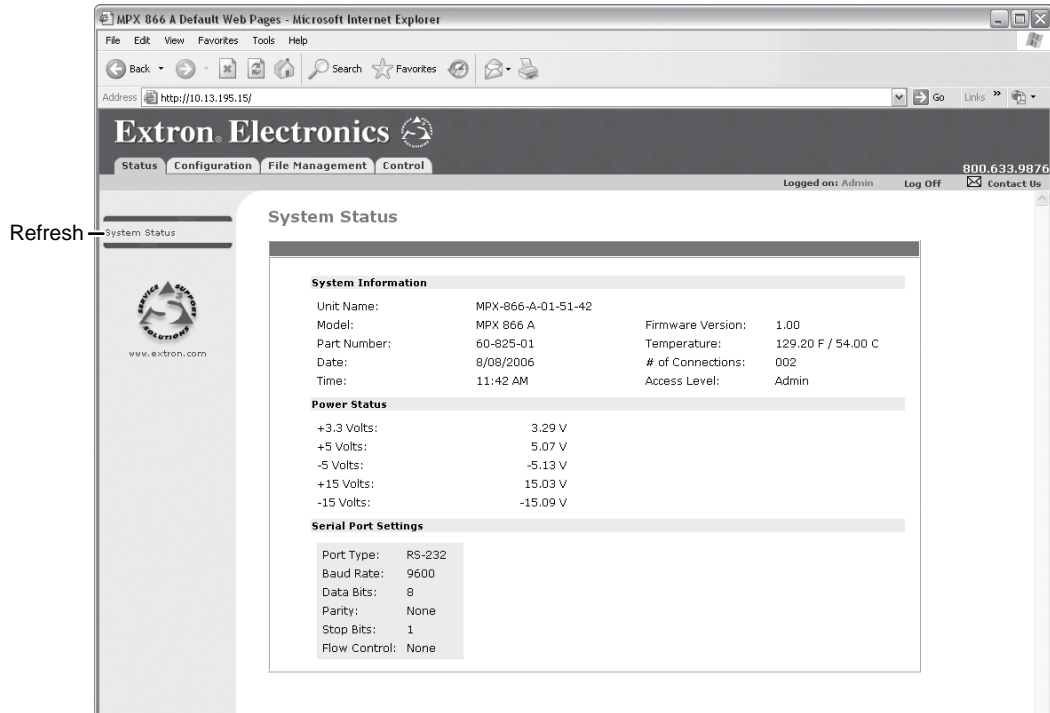

Figure 55. System Status Page
- **If neither of the above conditions is true**, the switcher downloads the factory-installed default startup page, "nortxe_index.html" (see figure 55), also known as the System Status page.
The System Status page (see figure 55) provides an overall view of the status of the matrix switcher, including individual voltages, power supply status, and fan status. The System Status page is the default page that the switcher downloads when you connect to the switcher. Access the System Status page from other pages by clicking the **Status** tab.